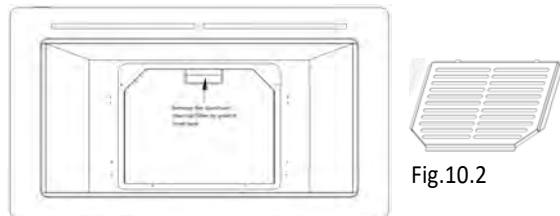

Fig.10.2
- Pull down the latch to remove the aluminum Charcoal Sponge Filter. (Fig 10.2)